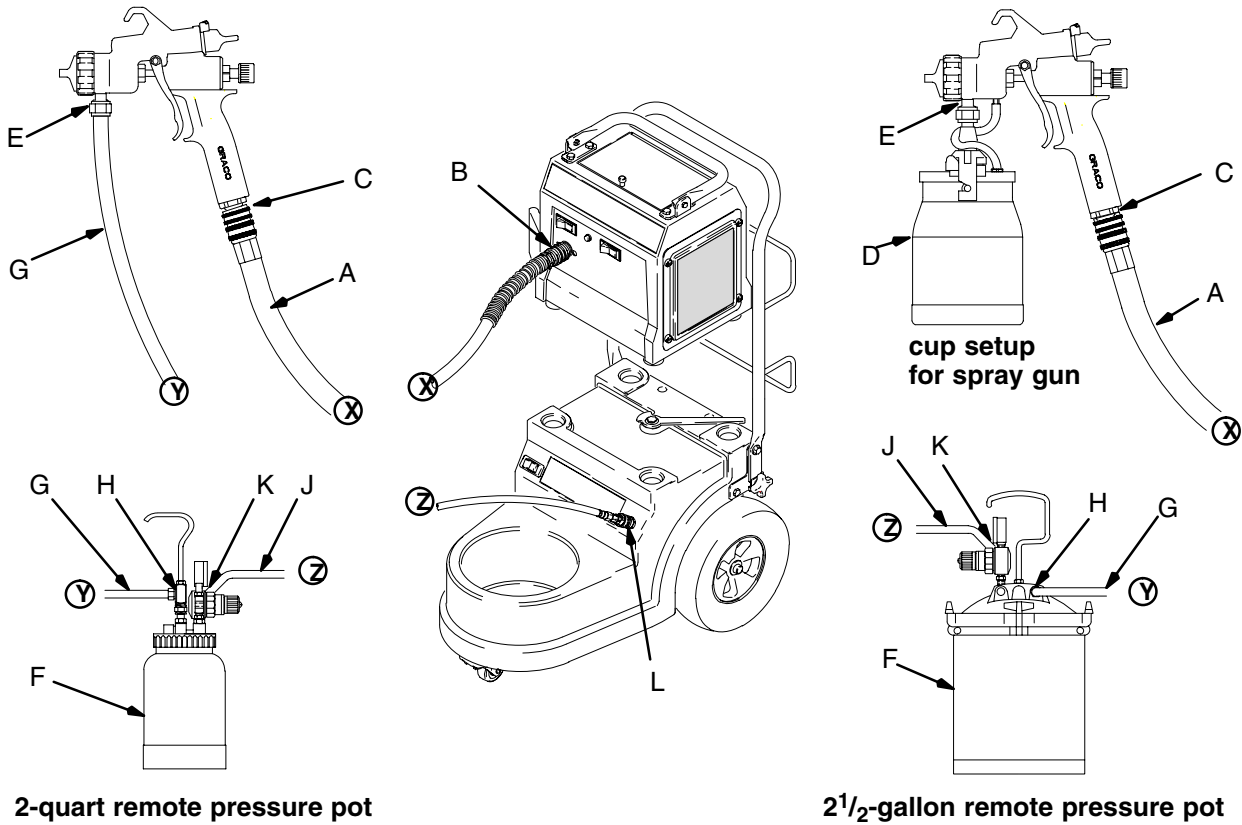

Fig. 12
- Circled letters in Fig. 12 indicate hose line connections.
1. Connect gun air supply hose (A) between turbine air outlet (B) and gun air inlet (C). DO NOT use wrench to tighten connections; hand tighten only. See Fig. 12.
2. If using a spray gun cup (D):